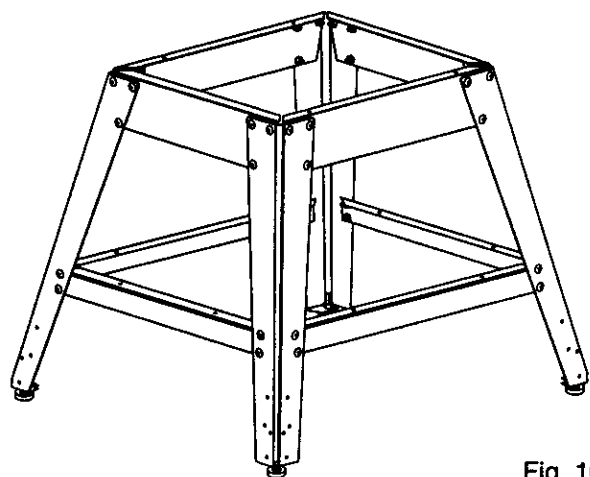

Fig. 10C
- Your leg stand is now completely assembled and ready for use. See Figure 10C.